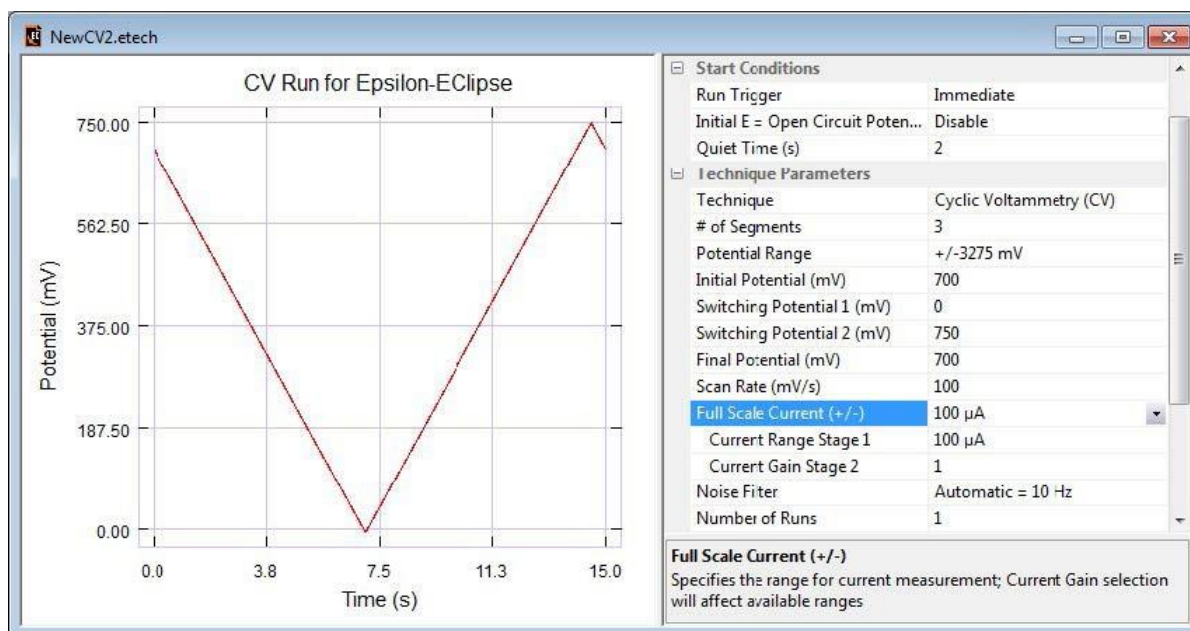

Figure 8 - New Cyclic Voltammetry Parameters
10. Click **New** in the **File** menu, and select **Cyclic Voltammetry** again. Enter the parameters shown in **Figure 8**, and run this experiment. Since there are 3 segments, 4 potential parameters must be defined (**Initial Potential-Switching Potential 1-Switching Potential 2-Final Potential**).